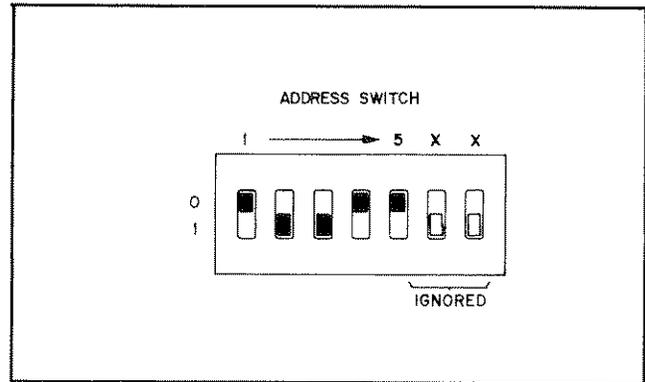

Figure 2-4. Listen Address Switches on Rear of 59501A
2-23 The listen address for the 59501A is selected by address switches on the rear of the unit. The switches are factory set to the suggested listen address of & when the unit is shipped from the factory. As shown in Figure 2-4, there are seven address switches. The last two switches, 6 and 7 (XX), are ignored (have no affect). Switches 1, 4, and 5 are set to "0" and switches 2 and 3 are set to "1" to select a listen address of "&". Note that "&" is the suggested listen address and is one of 31 listen address possibilities. The address switch settings for each of the 31 listen address possibilities are listen in Table 2-1.